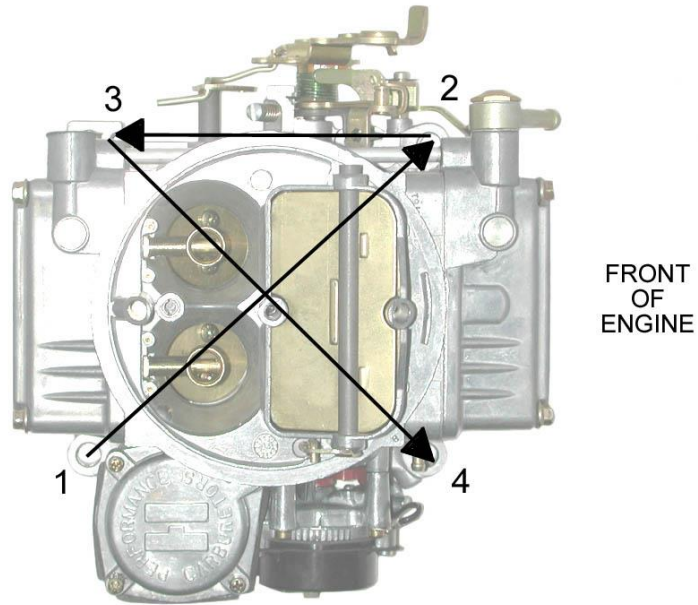

Figure 1—Carburetor torque sequence (all Holley® carburetors)
3. Place the carburetor on top of the flange gasket on the manifold. Install the hold down nuts and snug down progressively in a “crisscross” pattern (60-80 in./lbs.), as shown in **Figure 1**.